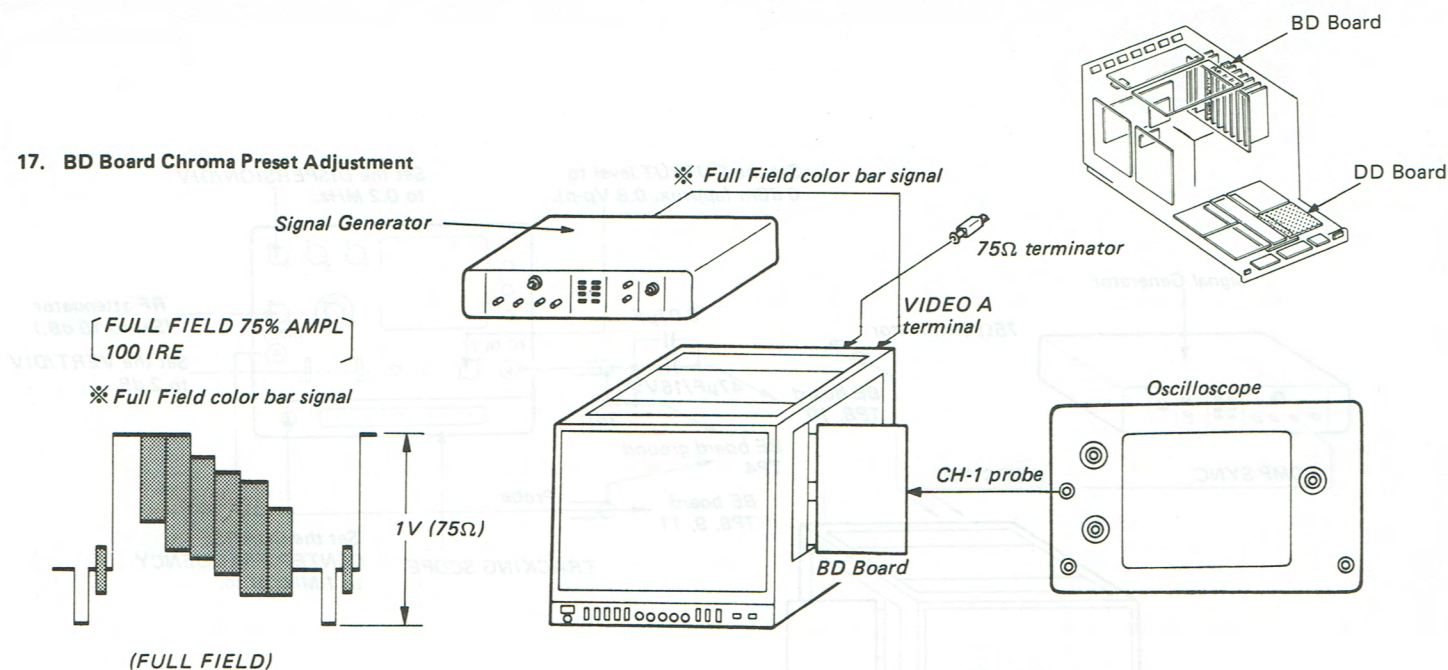

Fig. 17-1.
1. Connect as shown in Fig. 17-1.